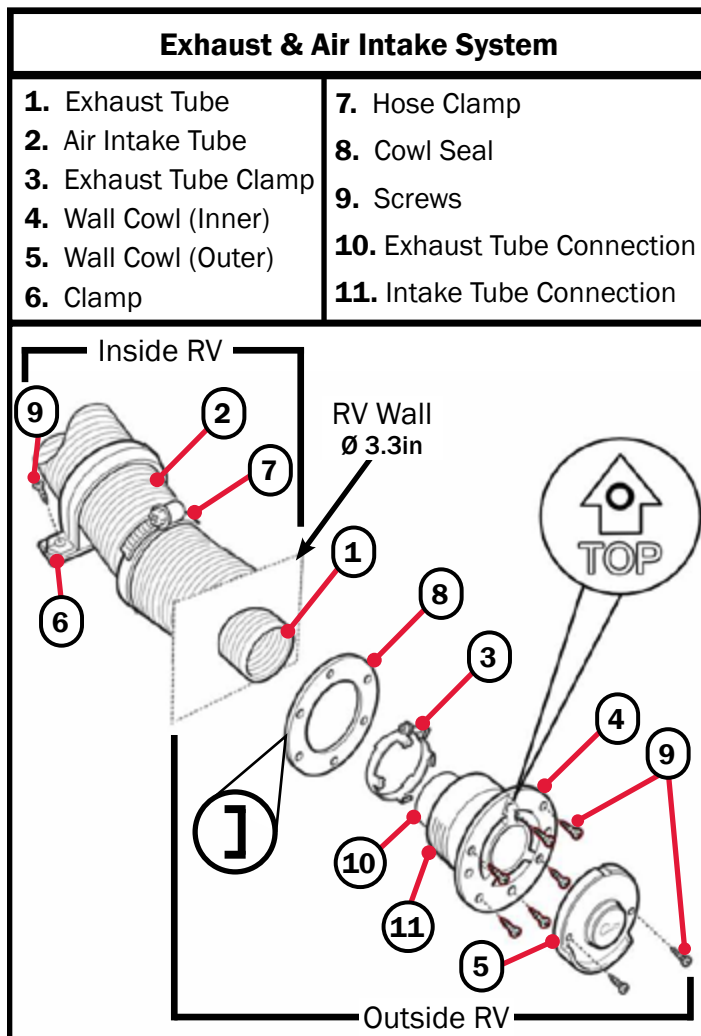

Figure 8
- Drill one hole (Ø 88mm, 3.3in) in the RV wall and seal with the gasket (Figure 8 #8) smooth side facing the exhaust vent and gasket facing the RV wall (Figure 8 #3).